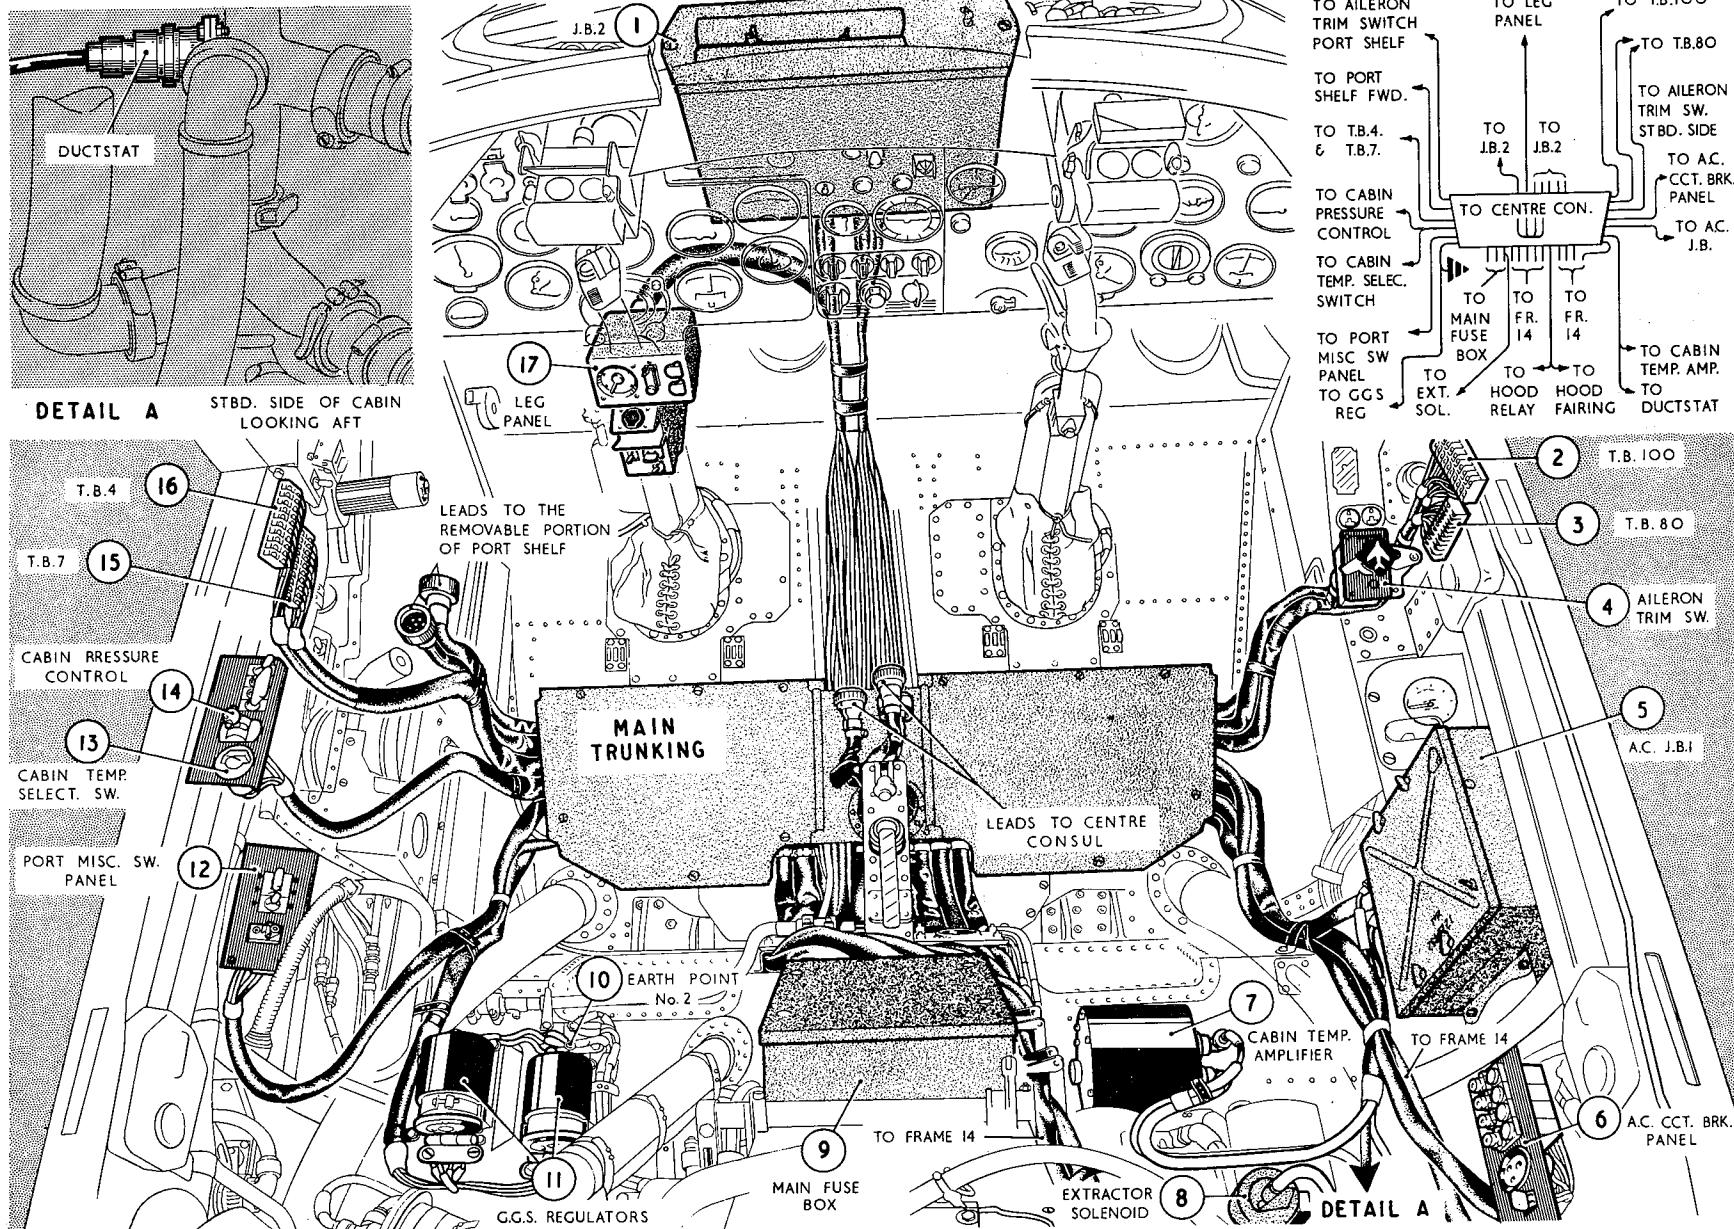

Fig.1 Removal of main trunking
Main trunking (fig.1 and 2)
- (1) Render the aircraft electrically safe, as described in Group A.1.
(2) Remove both ejection seats as described in A.P.4288D, Vol.1, to obtain access to the trunking.
(3) Remove the centre console, as described in para.5, and the removable portion of the cabin port shelf as described in para.20.
(4) All the cable assemblies attached to the trunking should now be disconnected at their remote terminations as detailed below and the cable runs unclipped from the aircraft's structure in preparation for their removal with the trunking:-
(a) Cable assemblies F.1A, F.3A, F.8A, F.10, F.14A, F.17A and A.12 from junction box number 2, (1) in fig.1, and cable assembly F.6A from the leg panel (17).